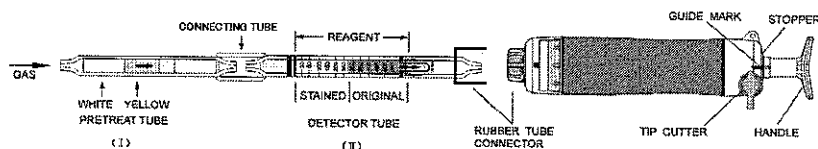

Fig.1
- ① Break both ends of the pretreat tube (I) and detector tube (II), and connect each end of the pretreat tube (I) and detector tube (II) with connecting tube as shown in Fig. 1.
- ② Insert the detector tube (II) into the aspirating pump securely as shown in Fig.1. (Arrow mark shall point to the pump.)
- ③ Align the guide marks on the shaft and stopper of the aspirating pump.
- ④ Pull the pump handle at a full stroke until it locks and wait for 2 minutes or until the completion of sampling is confirmed with the flow indicator of the pump. (See descriptions about the flow indicator in the instruction manual of the pump.)
- ⑤ On completion of sampling, read the scale at the maximum point of the stained layer.